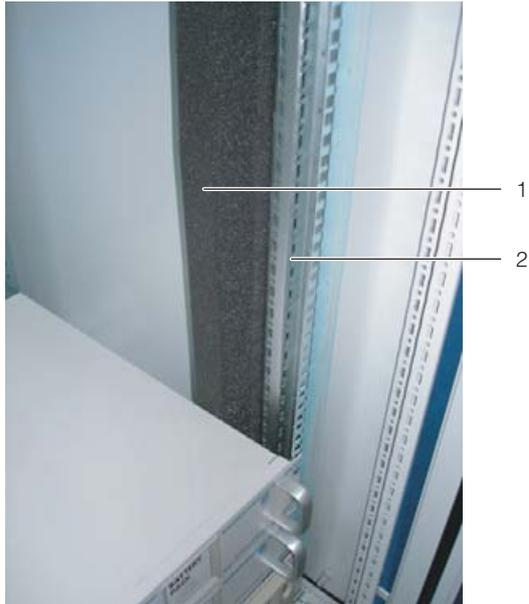

Fig. 21: Foam strip on a server rack support
- Fasten the wider (Model No. 3301.370 / 3301.320) of the two foam strips from the Liquid Cooling Package accessories from outside onto one of the front supports of the server rack (fig. 21). Make sure to install this strip on the side of the server enclosure onto which the Liquid Cooling Package is to be bayed.
- **If you are only baying the Liquid Cooling Package on one side:** Fasten the narrower (Model No. 3301.380 / 3301.390) of the two foam strips from the Liquid Cooling Package accessories from outside onto one of the front supports of the server rack (fig. 21). Make sure to install this strip on the side of the server enclosure which will again be sealed by a side panel.